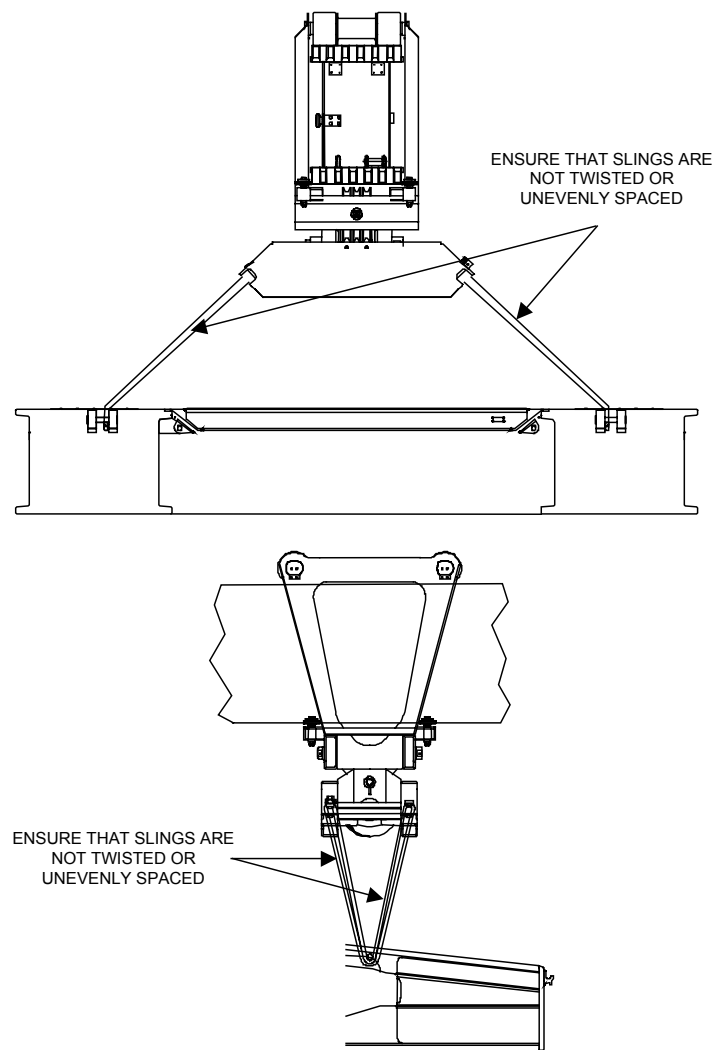

Figure 3. 39 Method and Location of Slings Home Bank Carriage
3.9.10.24 Route the carriage slings through the front ramp module bridge lifting points (Figure 3. 39) and re-connect the sling to the carriage. Ensure the sling straps do not cross or become twisted. Ensure that the carriage is level horizontally and vertically prior to lifting, with respect to the upper part of the carriage.